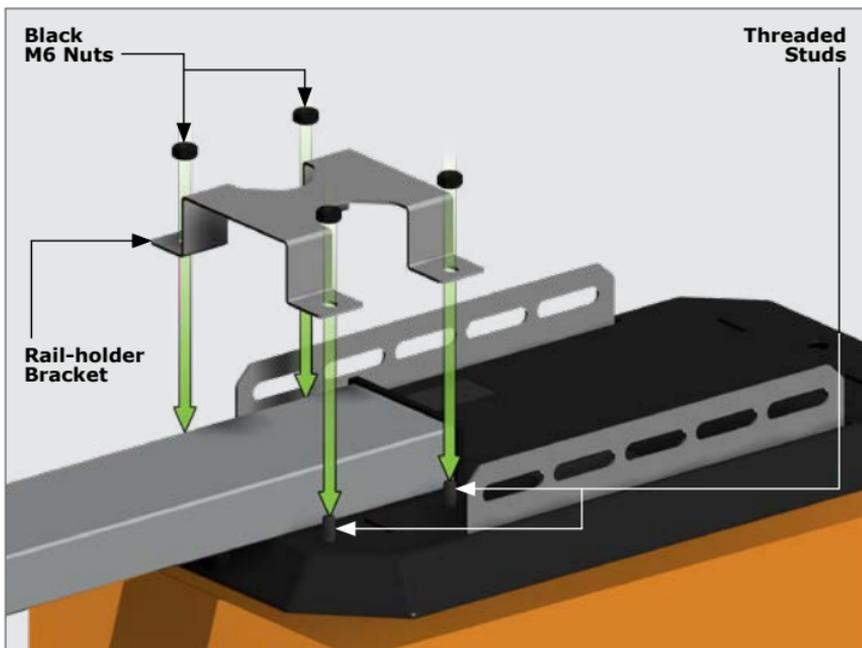

FIGURE 8
- Place the Rail-holder Bracket into position over the four threaded studs found on top of the **SD05 SMART+** Head Unit and Secure the Rail-holder Bracket into position using the 4x supplied Black M6 nuts and a 10mm Socket (Figure 8).